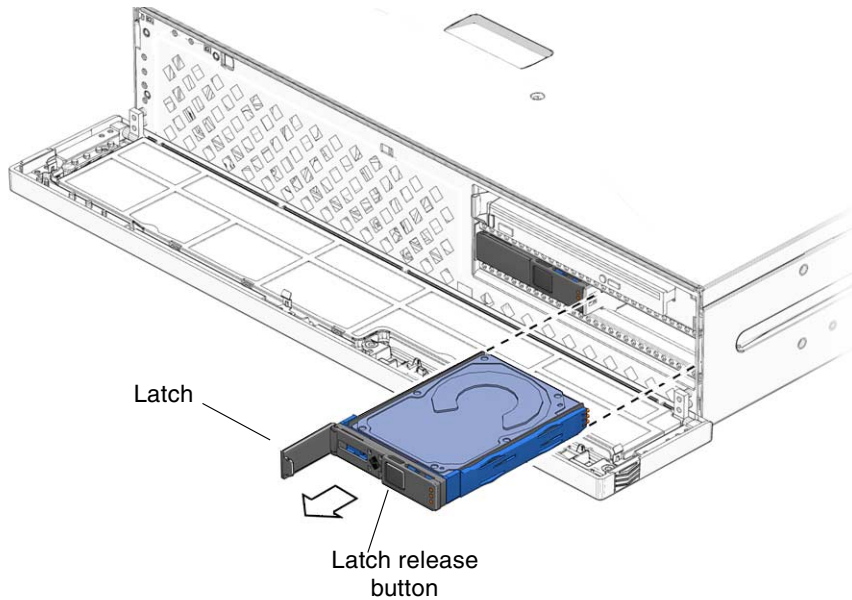

FIGURE 3-19 Opening the Hard Drive Latch
4. On the drive you plan to remove, push the latch release button (FIGURE 3-19) to open the hard drive latch.